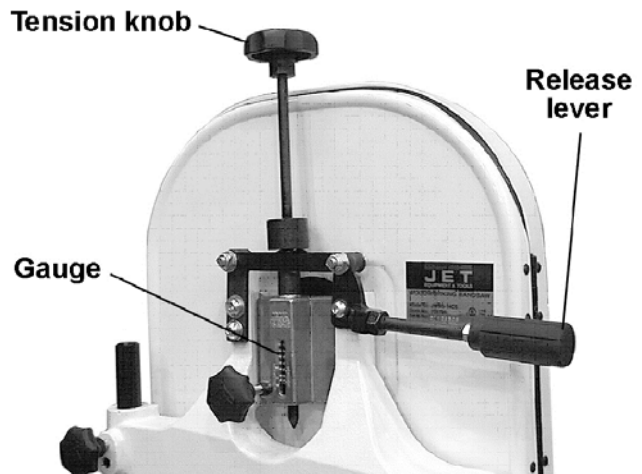
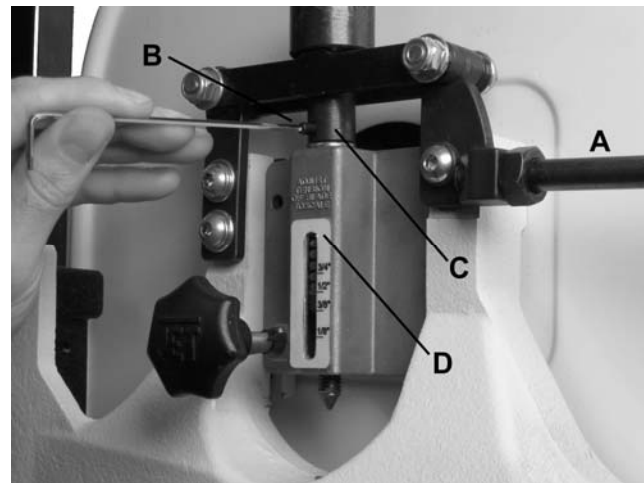

Figure 6
Figure 8
2. Loosen blade tension by pushing up on the release lever (Fig. 6).
3. Turn blade tension knob (Fig. 6) clockwise to tension blade. The blade width gauge (D, Fig. 8) indicates the approximate tension according to the width of the blade. Initially, set the blade tension to correspond to blade width*.
7. Using a 2.5mm hex wrench loosen the set screw (B, Fig. 8) in the lower bushing (C, Fig. 8).
8. Using a pair of pliers rotate the bushing (C, Fig. 8) down only about 1 to 2 turns.
9. Replace the set screw (B, Fig. 8) and check for proper tension. Repeat the process if necessary.